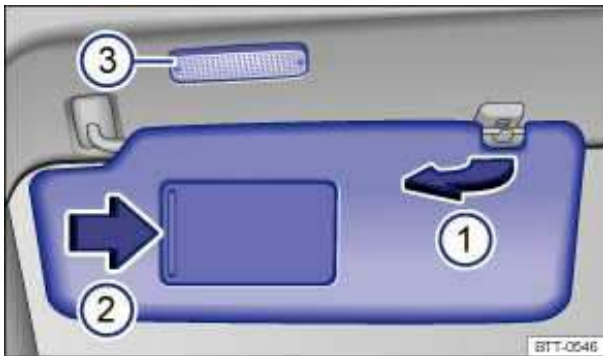

Fig. 88 Sun visor.
- Lift it out of the retaining clip ⇒ fig. 88 \(1\) and swivel it over toward the door.